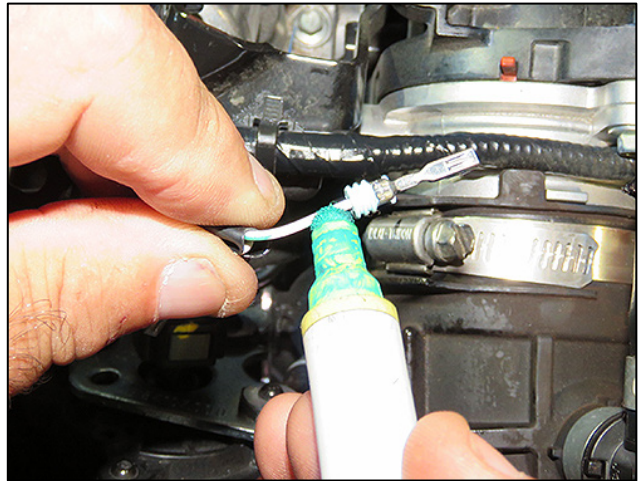

Figure 16
14. Locate the repair kit wire that was soldered-sleeved to the blue wire of the vehicle's wiring harness, and then mark it to ensure the correct pin locations (Figure 16).